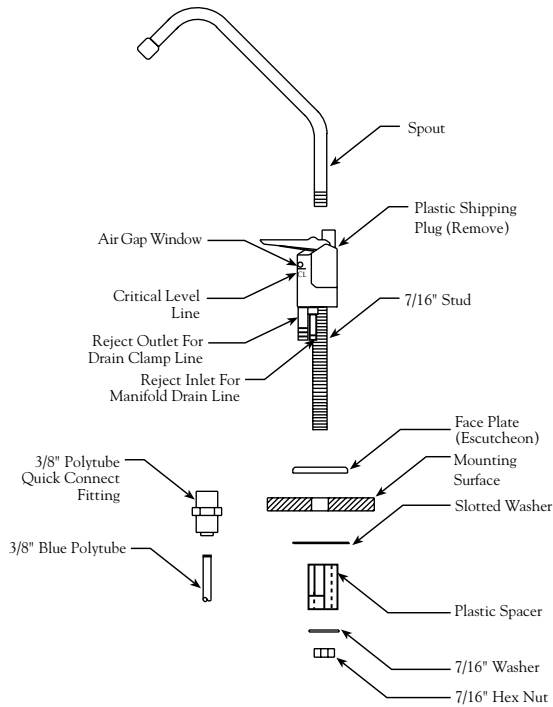

Figure 2
3. Assemble and attach the Faucet (refer to Fig. 2, page 8).
- Check the Air Gap Window on the Dispensing Faucet to be sure that the drain water is flowing. (Refer to Figure 2, page 8.) The R.O. System is now making water.